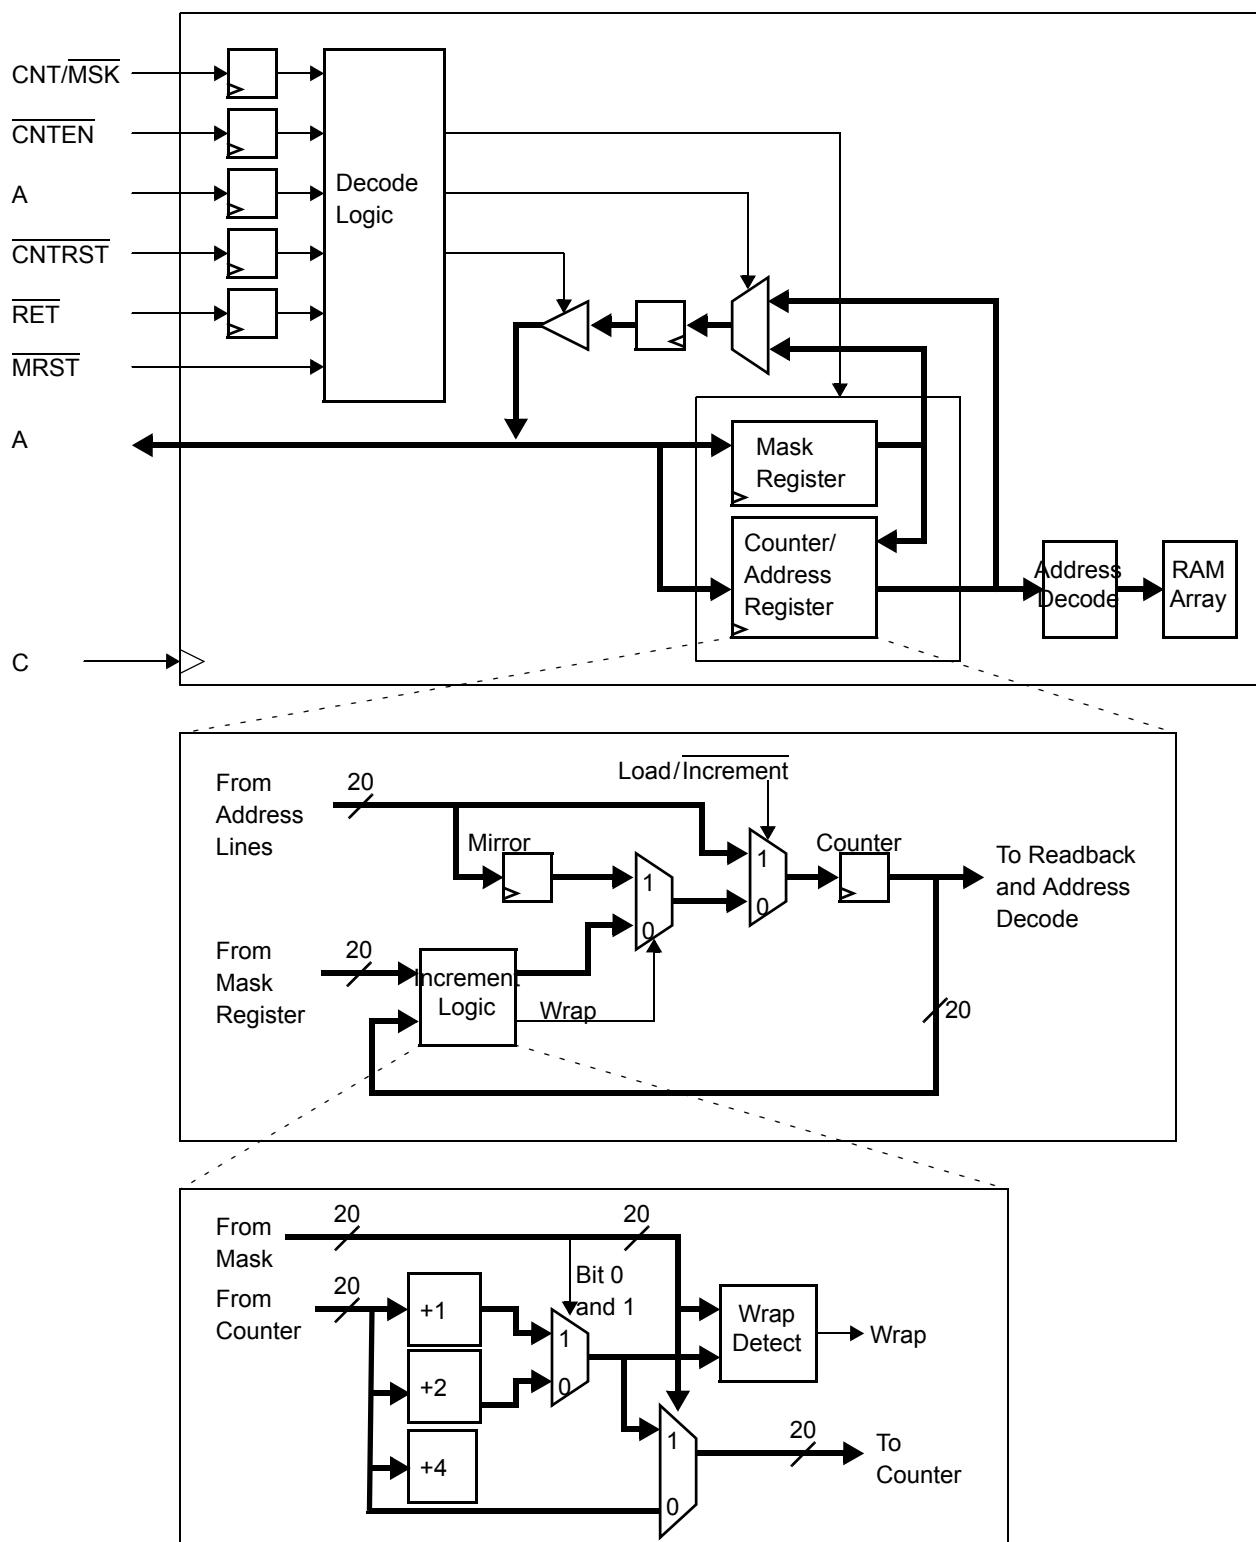

Figure 3. Counter, Mask, and Mirror Logic Block Diagram^[1]
The internal value of the counter register can be read out on the address lines. The address will be valid t_{CA} after the selected number of latency cycles configured by FTSEL. The data bus (DQ) is tri-stated on the cycle that the address is presented on the address lines. *Figure 3* shows a block diagram of this logic.
The internal value of the mask register can be read out on the address lines. The address will be valid t_{CA} after the selected number of latency cycles configured by FTSEL. The data bus (DQ) is tri-stated on the cycle that the address is presented on the address lines. *Figure 3* shows a block diagram of the operation.